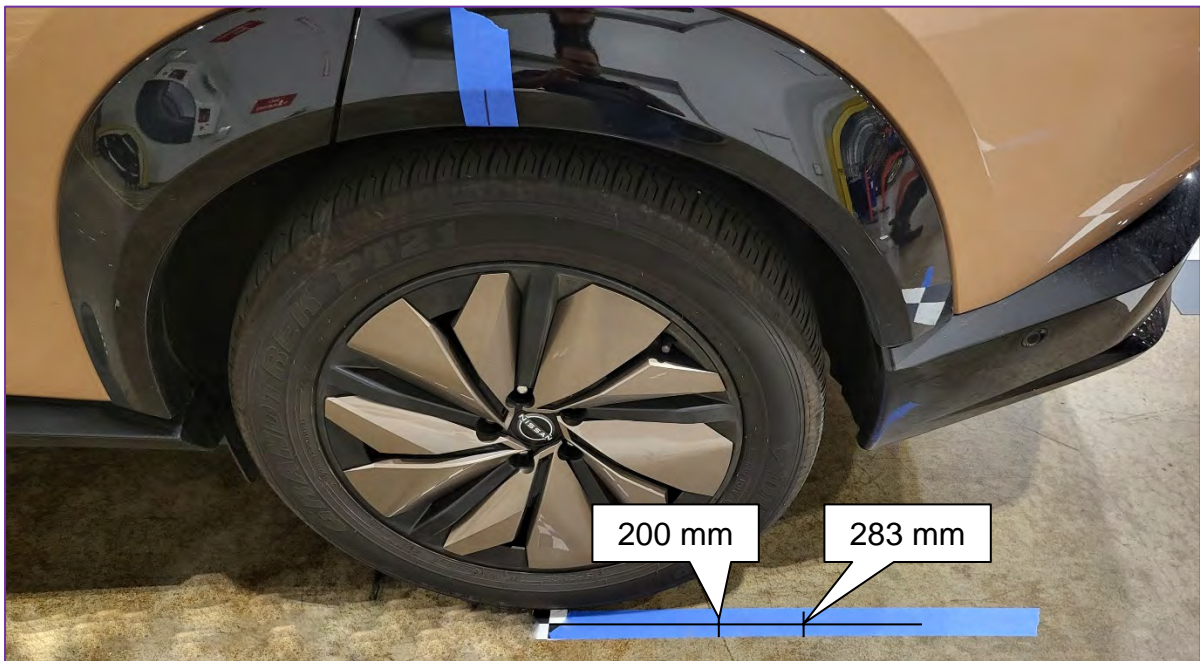

Figure 101
64. Measure 200 mm and 283 mm from the center point of the driver (LH) side rear wheel, and then make a mark at each measurement, as shown in Figure 101.